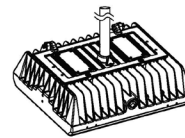

Figure 20
4. Lock the driver box cover with screws (Figure 20). The required torque of the screws for fixing the driver box cover is 1.5 to 1.7 Nm.